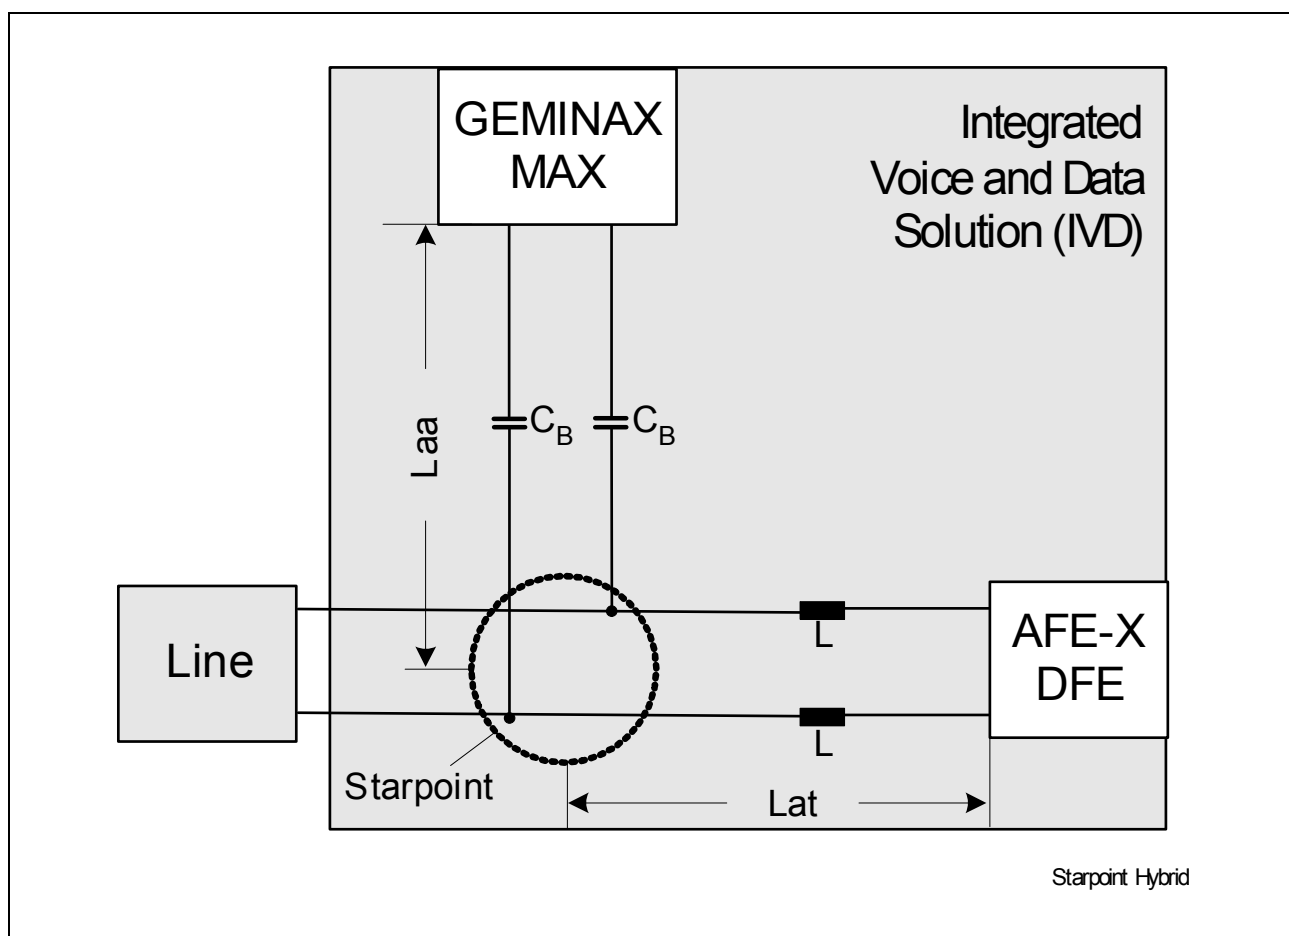

Figure 13 Starpoint Hybrid
2. $Z_{\text{ADSL-I}}$ does not include the blocking capacitors C_B , which are part of the starpoint hybrid (see Figure 13).